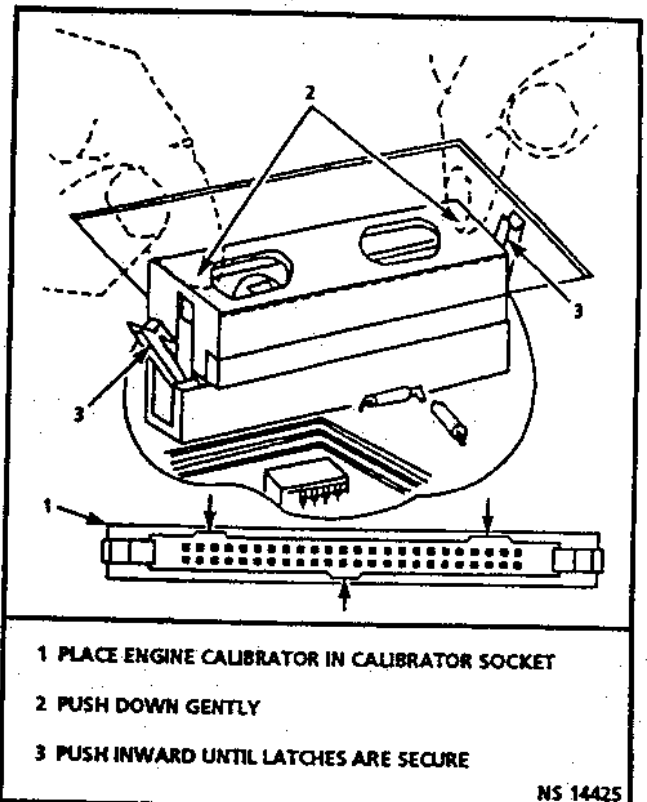

Figure 3.1-5 Engine Calibrator Installation
VERY GENTLY press down on the ends of the engine calibrator until the locking levers are rotated toward the sides of the engine calibrator. (Figure 3.1-5.)
**VERY GENTLY** press down on the ends of the engine calibrator until the locking levers are rotated toward the sides of the engine calibrator. (Figure 3.1-5).
- If not fully seated, press firmly on engine calibrator assembly. (Figure 3.1-5).